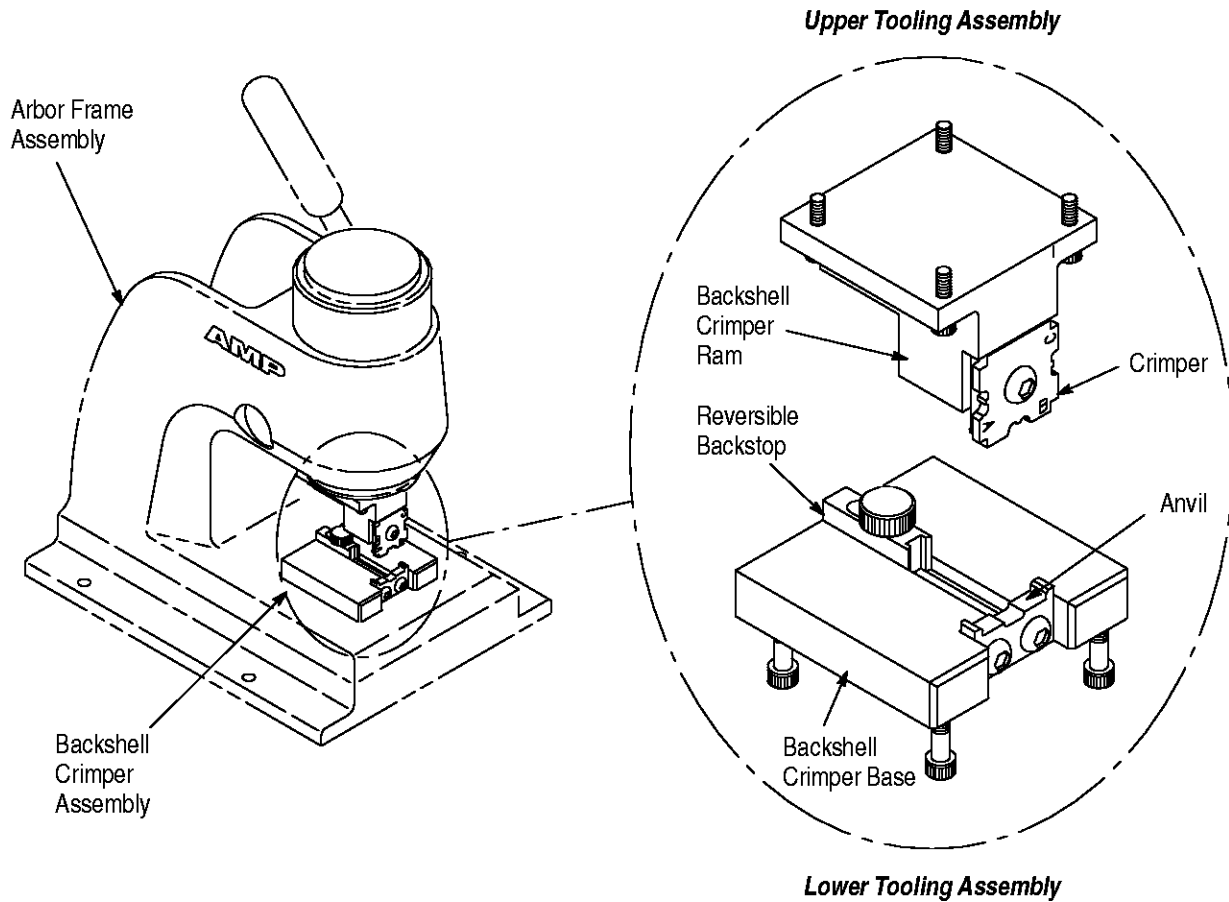

Figure 1
**2. DESCRIPTION (Figure 1)**
To install the crimper assembly, refer to Figure 1 and proceed as follows: